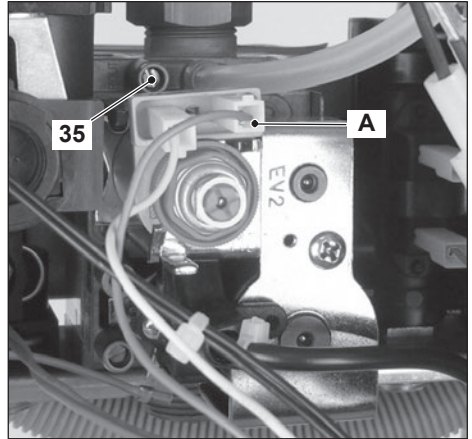

Fig. 7.8
- Loosen the internal screw 35 (Fig. 7.8) on the Outlet Pressure Test Point of the Gas Valve and connect a pressure gauge using a suitable hose.
- Disconnect the gas modulator coil by removing the electrical connector A (Fig. 7.8).
- Open the gas valve outlet pressure test point 35 (Fig. 7.8) and connect the gauge.